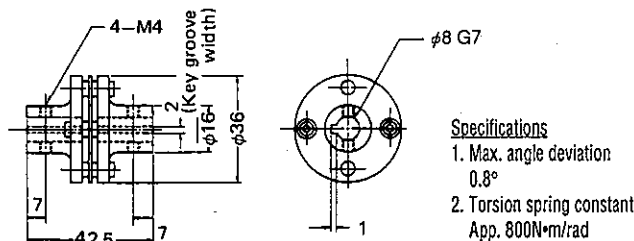

Fig.4 FC-1B flexible coupling
4.3 To install the torque transducer between the motor and the load, use the flexible couplings which are available as optional parts. (Fig. 4 and 5)